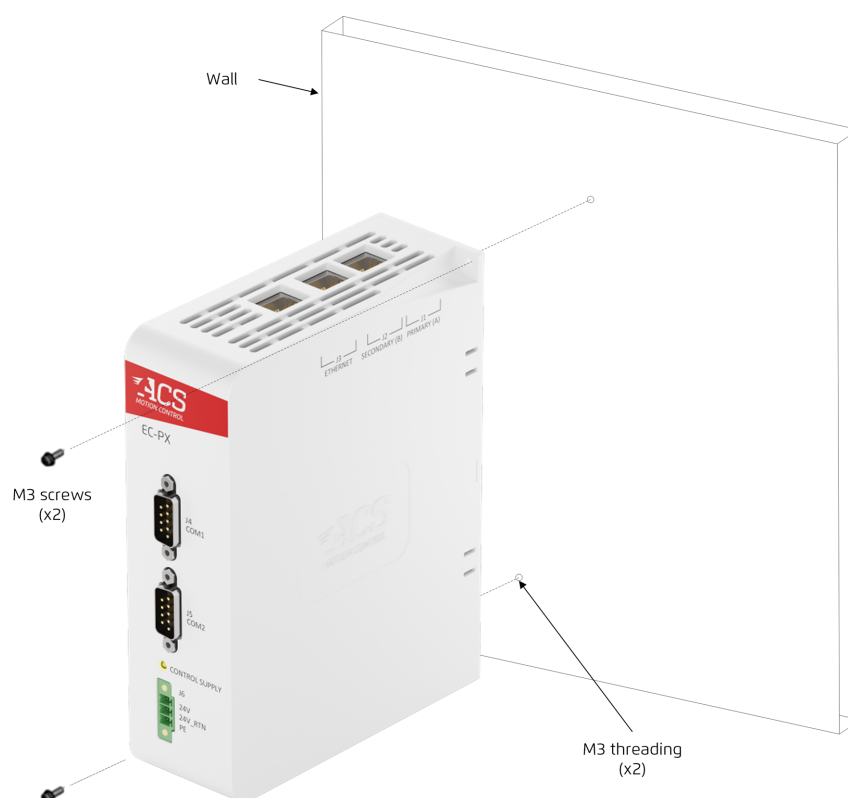

Figure 3-3. Vertical Mounting Diagram
1. Use two M3 screws as shown in Figure 3-3 to mount the EC-PX on a vertical surface.